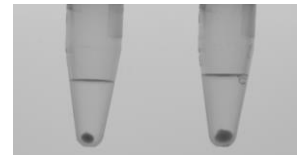

Fig. 1: recommended pellet sizes:
- 50 – 200  $\mu\text{L}$  of yeast slurries or other samples with sediment to reach a pellet size of app. 2 mm in diameter after centrifugation (see fig. 1)
- Control the pellet size, it is including the cells from the sample. Pellet size should not exceed 2 mm in diameter (see fig. 1).